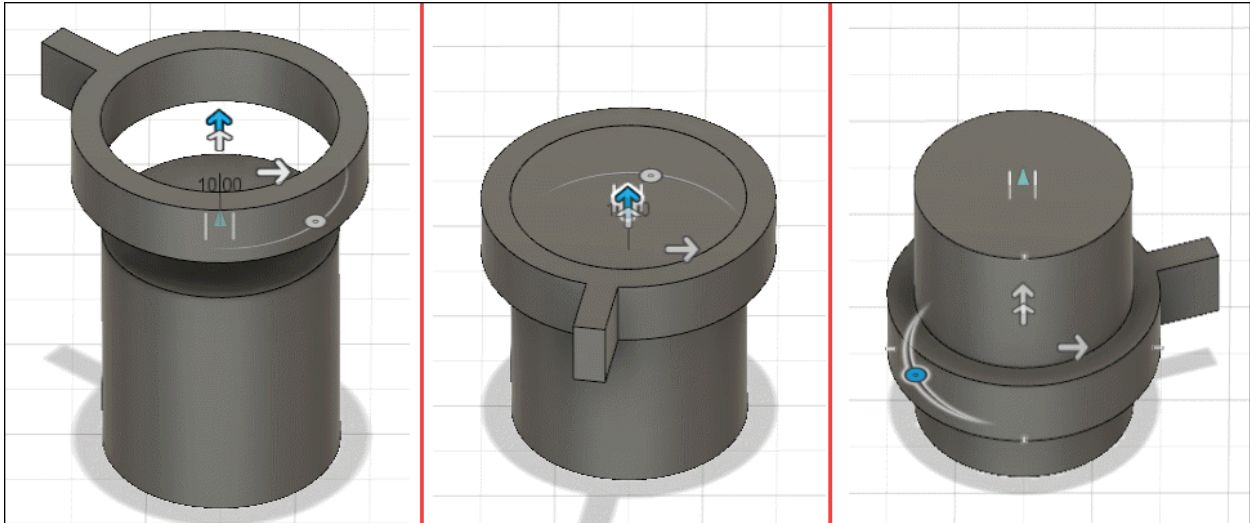

Figure-17. Slider motion
- Click on the **Slider** option from **Type** drop-down in the **Motion** tab of the **JOINT** dialog box, if you want to assemble the component in such a way that selected component can slide over the other; refer to Figure-17.